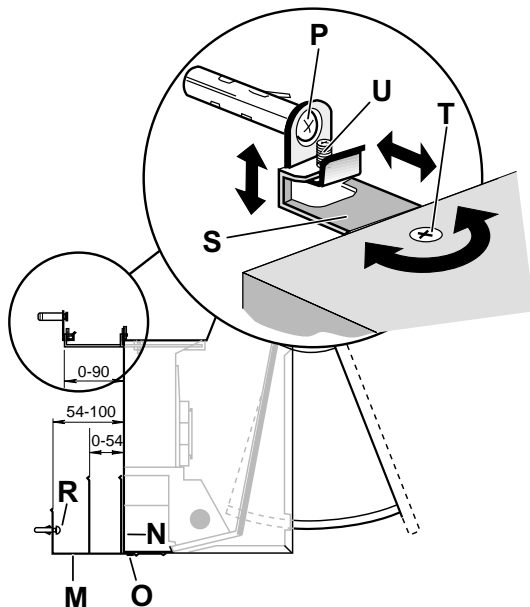

Fig. 11
- Fit the spacer **M** on the hood with two screws **O** and washers, ensure that there is not a gap between the back of the hood and the wall by adjusting the spacer **M** tightly to the wall, using the screws **O**. **Fig. 11.**
- Screw the two mountings hooks **P** into the top two wall plugs. **Fig. 11.**
- Fix the base spacer **M** to the wall with the two screws **R** 5x45 provided using either the long or the short arm, depending on the depth of the side cupboards. Do not tighten the screws fully. **Fig. 11.**
- Fix the hood to the wall by means of the two hooks **P** previously mounted, but first move the upper brackets **S** so that the front panel of the hood, once mounted, will be in line with the front edge of the cupboard doors. The two upper brackets **S**, located at the top rear edge of the hood may be slid backwards and forwards by loosening its fixing screws **T** adjacent to them on the upper hood surface. **Fig. 11.**
- Check that the hood is at the right height. Minor height adjustments may be made with the screws **U** embodied in the brackets. **Fig. 11.**
- Tighten the two wall fixing screws **R**, through the two access holes **N** provided on the inside of the hood then fix the lower sliding frame to the hood with two screws **O** and washers. **Fig. 11.**